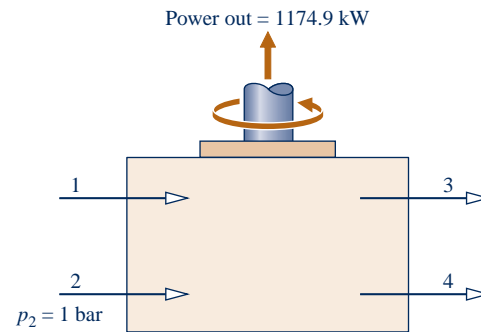

Fig. P6.87
6.87 An inventor claims that at steady state the device shown in Fig. P6.87 develops power from entering and exiting streams of water at a rate of 1174.9 kW. The accompanying table provides data for inlet 1 and exits 3 and 4. The pressure at inlet 2 is 1 bar. Stray heat transfer and kinetic and potential energy effects are negligible. Evaluate the inventor's claim.